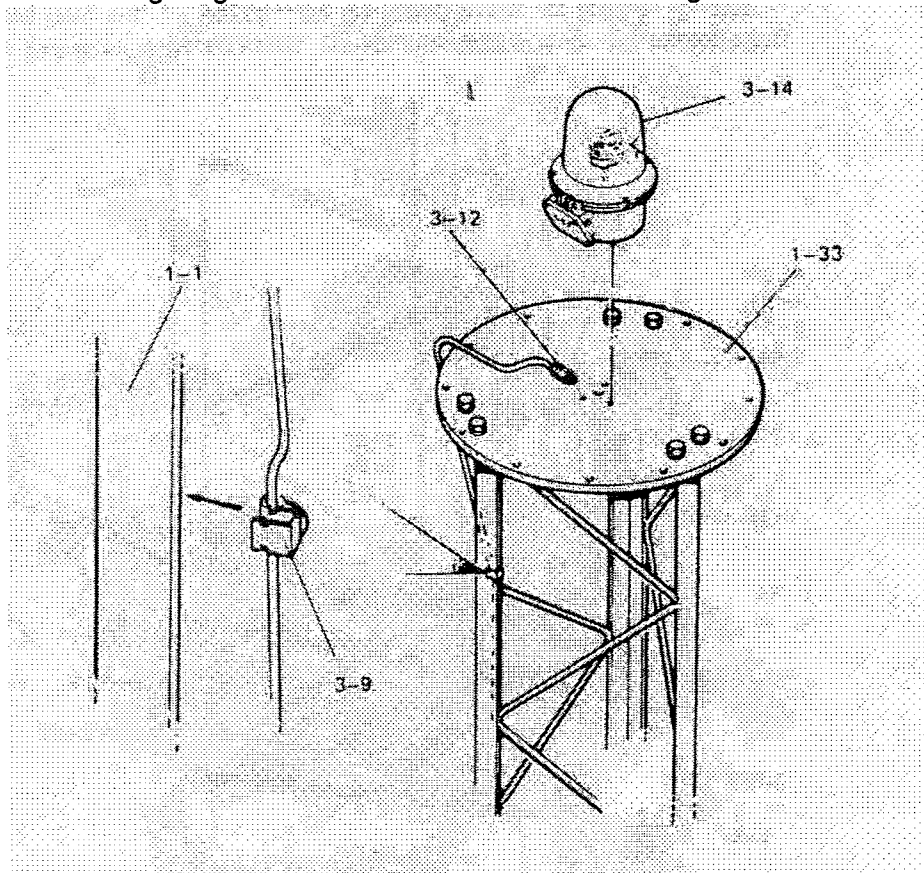

FIGURE 21 – Mast Head Lighting Lamp and Cable Fitting
Step 1 -After erection of the mast has been completed, bolt the obstruction light (Neon, as standard or twin filament) to the mast headcap using the bolts supplied with the fitting. Screw the cable gland into the obstruction light and allow the cable to hang down inside the mast structure, as shown in figure 21.